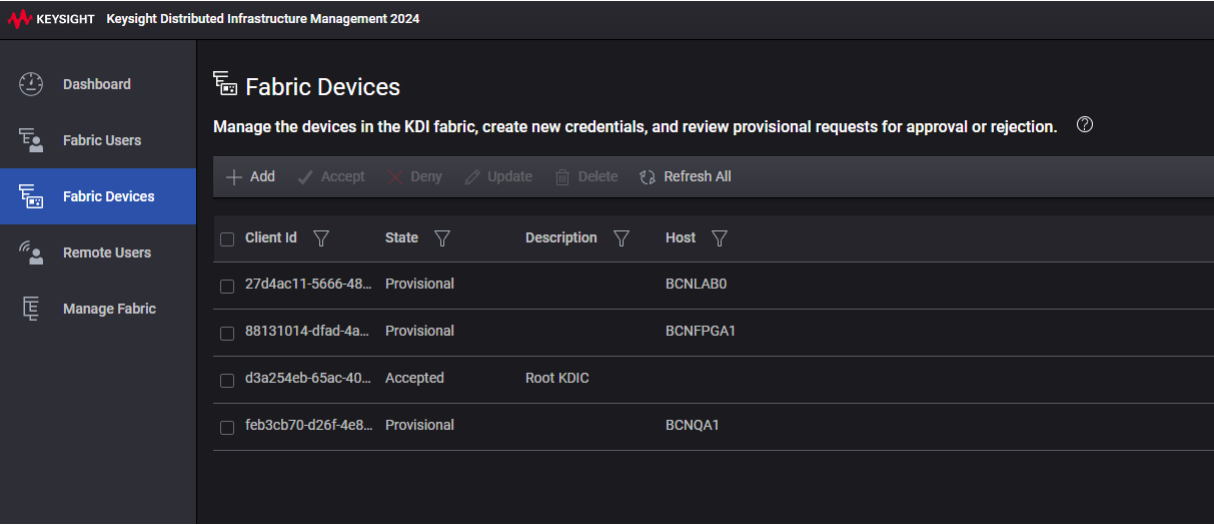

Figure 42 Provisional state of the leaf node on the first connection attempt to the root node
- 1 Select each non-root host (client) with Provisional state. For example, BCNQA1 as shown in Figure 42.